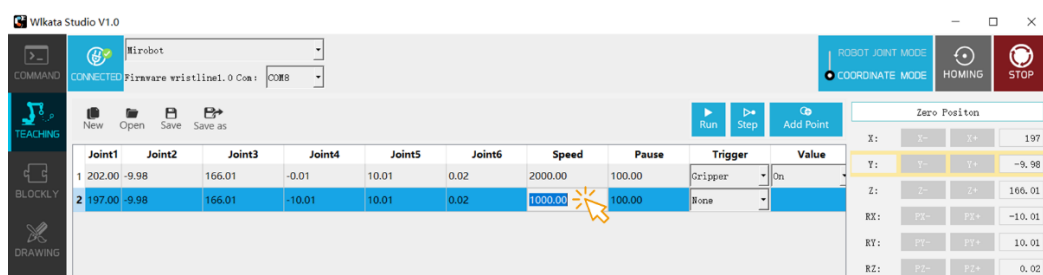

Figure 3.24 Editing the teaching point in-line
(4) After adding the first teaching point, one could continue to adjust the position and posture of the manipulator, and then click the **Add Point** button to add the second and the third teaching point... until all teaching points are added.
(5) Edit the property of teaching points:
- Editing the teaching point in-line: single left-click on the top of the cell you want to edit --> input the desired value --> single left-click in blank space / or press Enter to confirm your edit. As shown in Figure 3.24